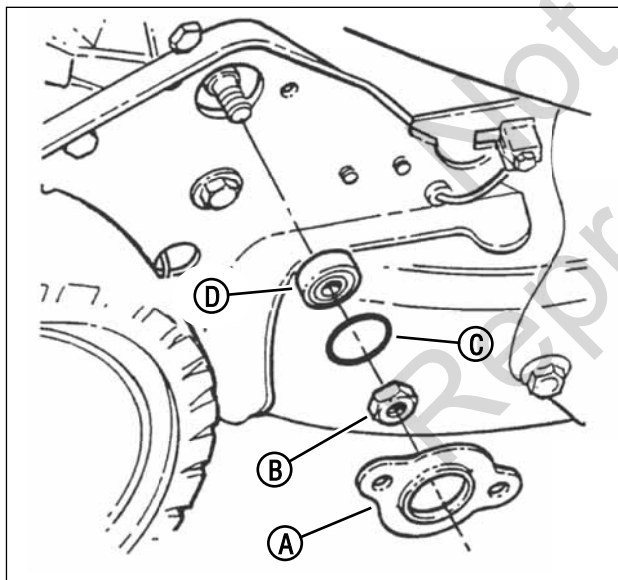

Figure 32: Replacing the hex shaft bearing
2. Remove the 3/8" hex lock nut (**B**, Figure 32), located on the outside of the right wheel bracket.